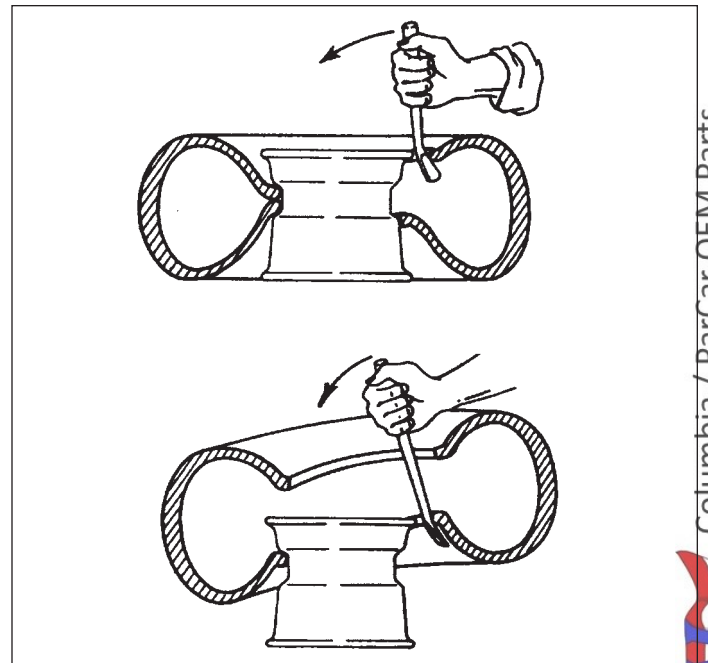

Figure 6-4. Removing Tire
4. Pry the tire off the wheel flange and push into the wheel well (Figure 6-4).
5. Apply tire mounting lubricant to tire bead. With valve stem side up, carefully start upper bead over wheel flange with a flat tire tool. When top bead is free from wheel, pry lower bead over wheel flange (Figure 6-4).